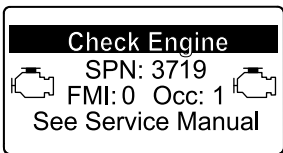

Figure 48
- Engine warning SPN 3719, FMI 0 (Figure 48)